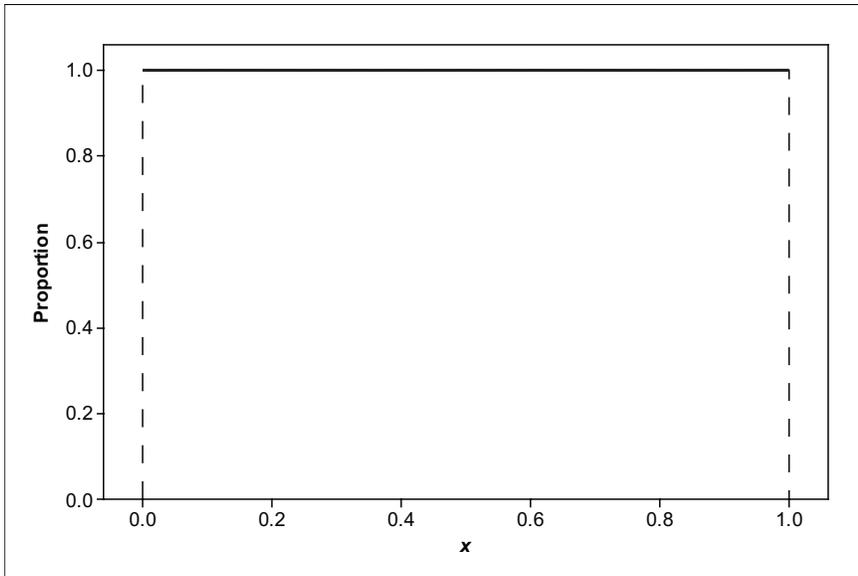

Figure 22.10. Density curve for uniform distribution.
3. A population has a uniform distribution with density curve as shown in Figure 22.10.
- Make a histogram of the 100 sample means. Describe the shape of your histogram. Compare the center of this sampling distribution with the center of the population distribution from Figure 22.10.